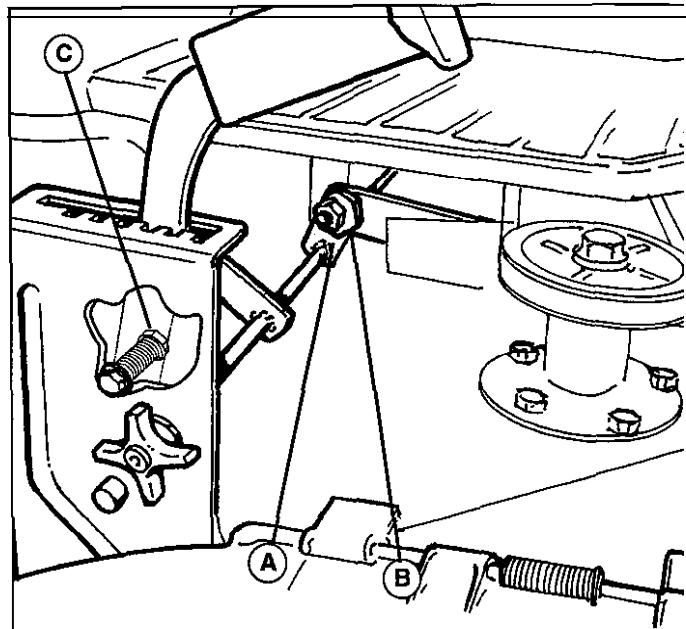

Figure 27. Front-to-Back Adjustment Nut
8. See figure 27. Loosen the outside nut (A) and turn the eccentric nut (B) to raise or lower the rear of the
*NOTE: If mower handle drops out of cutting height quadrant, turn adjustment nut (C, figure 27) clockwise to increase spring tension. DO NOT tighten nut all the way so that spring is solid.*